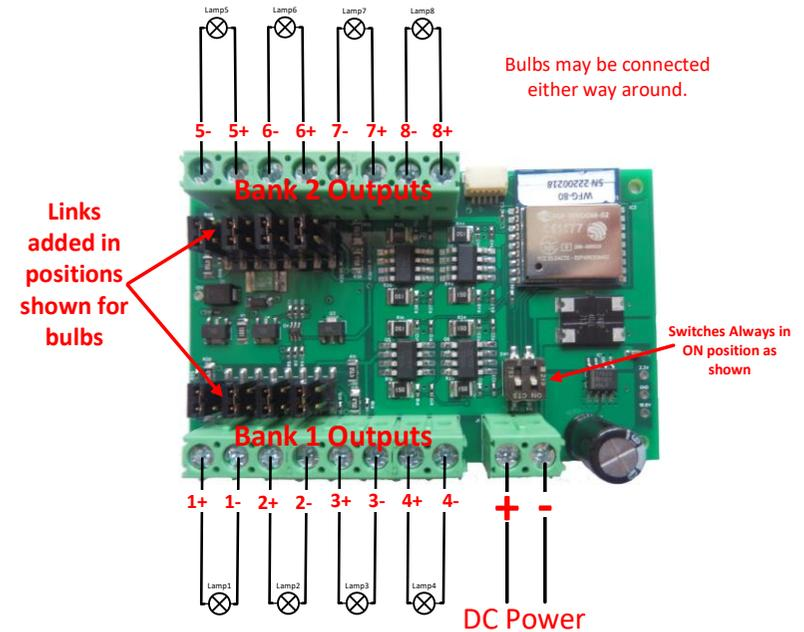
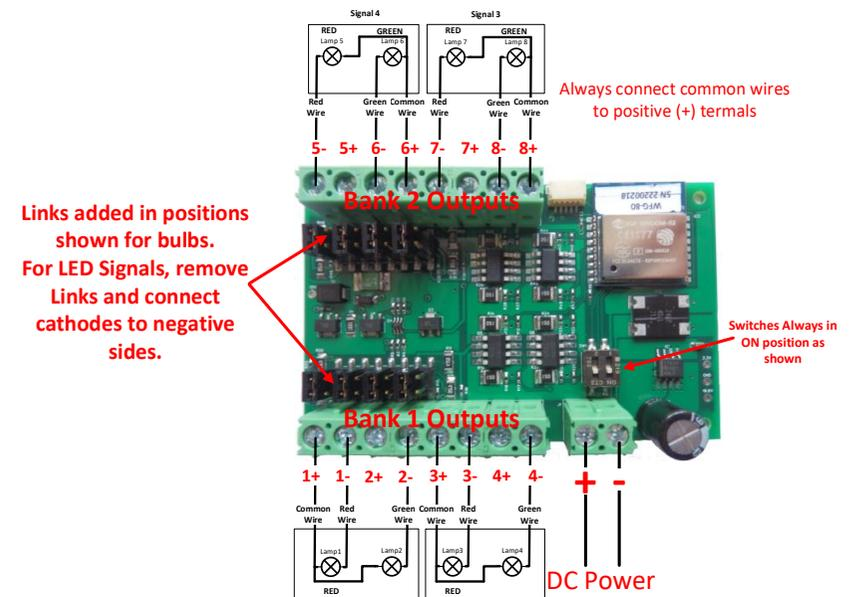
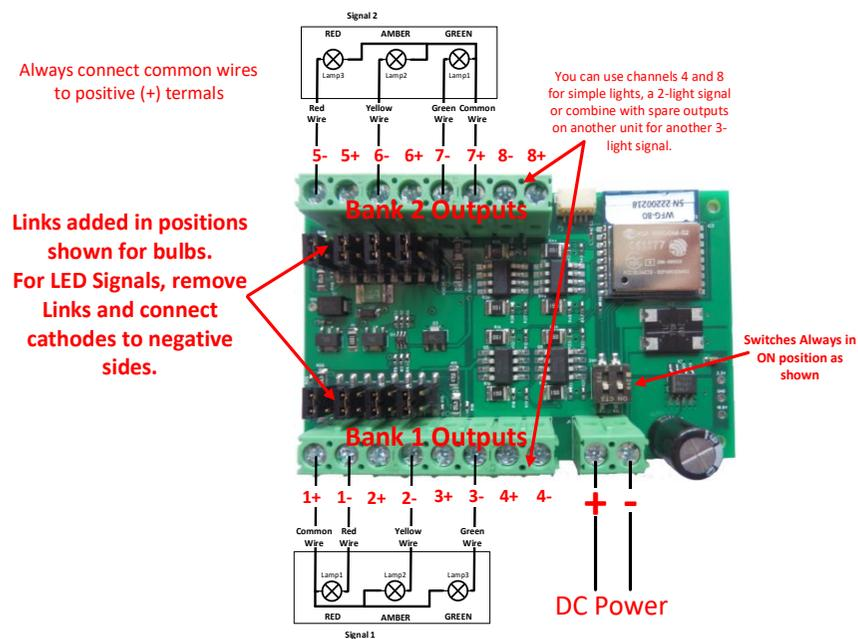

Figure 3. Connection Diagram for Grain-of-Wheat Lamps
Figure 4. Connection Diagram for 2-Light Signals
Figure 5. Connection Diagram for 3-Light Signals
- (2) Wire the WFG-80 to your lights or signals according to Figure 2, Figure 3, Figure 4 or Figure 5. If you have multiple types of device, you can take account of more than one figure. Be sure to connect common wires to the positive side of each of the eight channels.
- (3) Note that each of the two banks can be dimmed independently through software using the WFG-80 Web Pages or the Tower Operator app.
- (4) Note that the two DIP switches must be always in the On position. These are only changed for firmware update.
- (5) Connect power to your unit at TRKA and TRKB as shown in Figure 2 through Figure 5. It does not matter which way round you connect the power. You can also use DCC track power but NOT AC. The power should be between 12 and 18 volts.